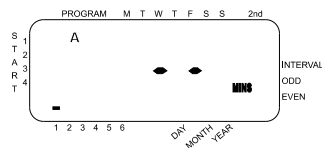

Figure 5: Station Duration for Program A
- Turn the rotary dial to the Station Duration position in either the A or B program. The display will show which program you have selected with an "A" or "B" and the -- MINS and the cursor blinking at station "1" [See Figure 5].